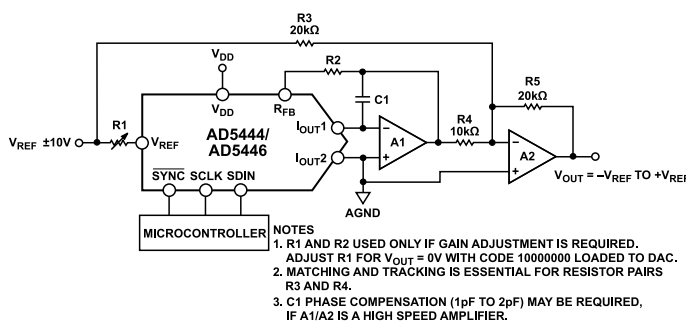

Figure 39. Bipolar Operation (4-Quadrant Multiplication)
In some applications, it may be necessary to generate a full 4-quadrant multiplying operation, or a bipolar output swing. This can easily be accomplished by using another external amplifier and some external resistors, as shown in Figure 39. In this circuit, the second amplifier (A2) provides a gain of 2. Biasing the external amplifier with an offset from the reference voltage results in a full 4-quadrant multiplying operation. The transfer function of this circuit shows that both negative and positive output voltages are created as the input data (D) is incremented from code zero ( $V_{OUT} = -V_{REF}$ ) to midscale ( $V_{OUT} = 0\text{ V}$ ) to full scale ( $V_{OUT} = +V_{REF}$ ).
An optional compensation capacitor (C1) can be added in parallel with RFB for stability, as shown in Figure 38 and Figure 39. Too small a value for C1 can produce ringing at the output, while too large a value can adversely affect the settling time. C1 should be found empirically, but 1 pF to 2 pF is generally adequate for the compensation.